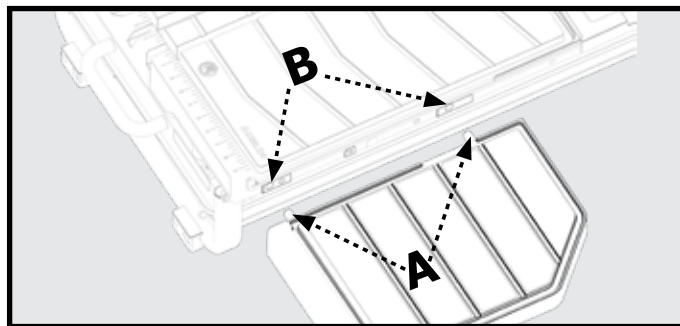

Figure 12
1. The Table Extension (12) installs on the right side of the Work Table.
2. Position the Table Extension so that the two Pegs (A) line up with the Holes (B) on the Work Table as shown in Figure 12.